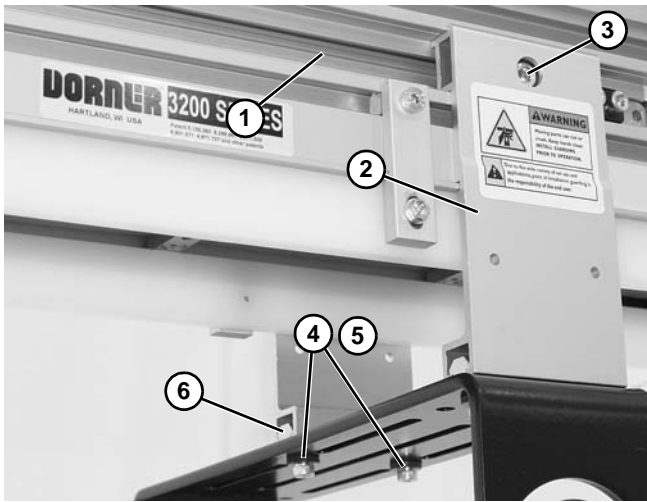

Figure 10
9. Insert twist nuts (Figure 9, item 5) into conveyor side slots (Figure 10, item 1). Fasten brackets (Figure 10, item 2) to conveyor with mounting screw (Figure 10, item 3).
10. Fasten brackets to support stand with mounting screws (Figure 10, item 4), washers (Figure 10, item 5) and nuts (Figure 10, item 6).
11. Tighten screws (Figure 10, item 3 & 4) to 60 in-lb (7 Nm).